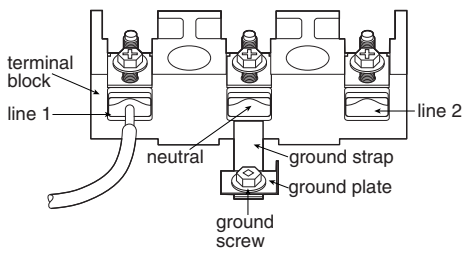

Figure 11
- 2 Strip insulation away from the ends of the permanent wiring for line 1, line 2 and neutral; also strip ground wire on 4-wire connections. Tighten all 3 or 4-wire leads to the terminal block. Follow wire locations shown in Figure 11.